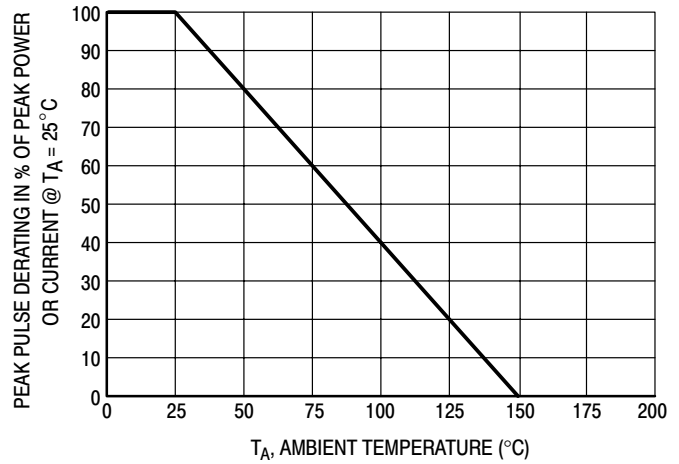
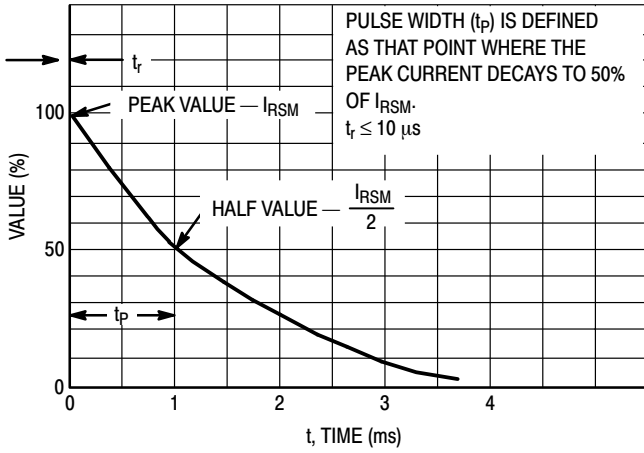
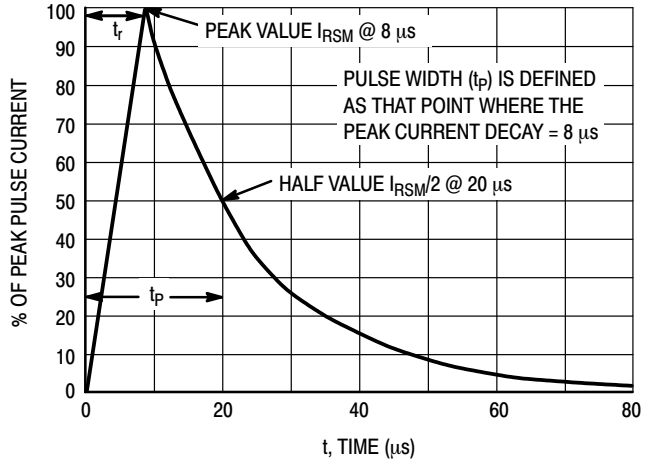

Figure 4. Pulse Derating Curve
Figure 5. 10 × 1000 μs Pulse Waveform
Figure 6. 8 × 20 μs Pulse Waveform
1. Nonrepetitive current pulse per Figure 5 and derated above $T_A = 25^\circ\text{C}$ per Figure 4
2. Nonrepetitive current pulse per Figure 6 and derated above $T_A = 25^\circ\text{C}$ per Figure 4
7. Surge current waveform per Figure 5 and derate per Figure 4